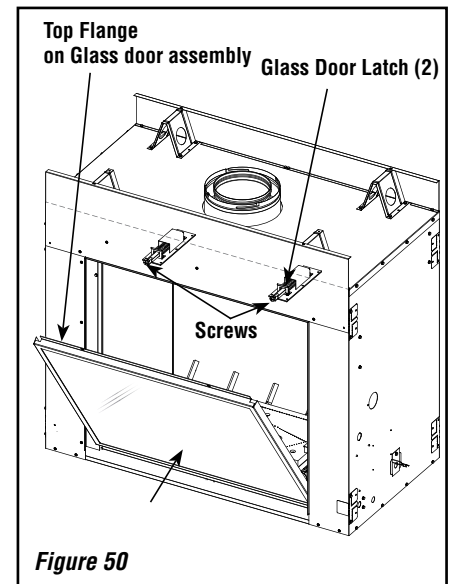

Figure 50
Installing Glass Doors, Mesh Pull Screens, and Modesty Panel (see Figure 50)
- b) Position the door in front of the firebox opening, with the top of the door held away from the fireplace (see **Figure 50**).
- d) Using a #3 Phillips screwdriver, fasten the door frame to the door latches with the two (2) latch screws. The latches should pull forward to engage the door frame.
Removing Glass Doors, Mesh Pull Screens, and Modesty Panel (see Figure 50)
- a) See **Figure 50**. While holding the top of the glass door frame in place, use a #3 Phillips screwdriver to remove the two (2) screws securing the door frame to the two (2) door latches.
- b) Carefully tilt the top of the glass door frame away from the unit (as shown in **Figure 50**), and then lift the door assembly up and out of the lower track.